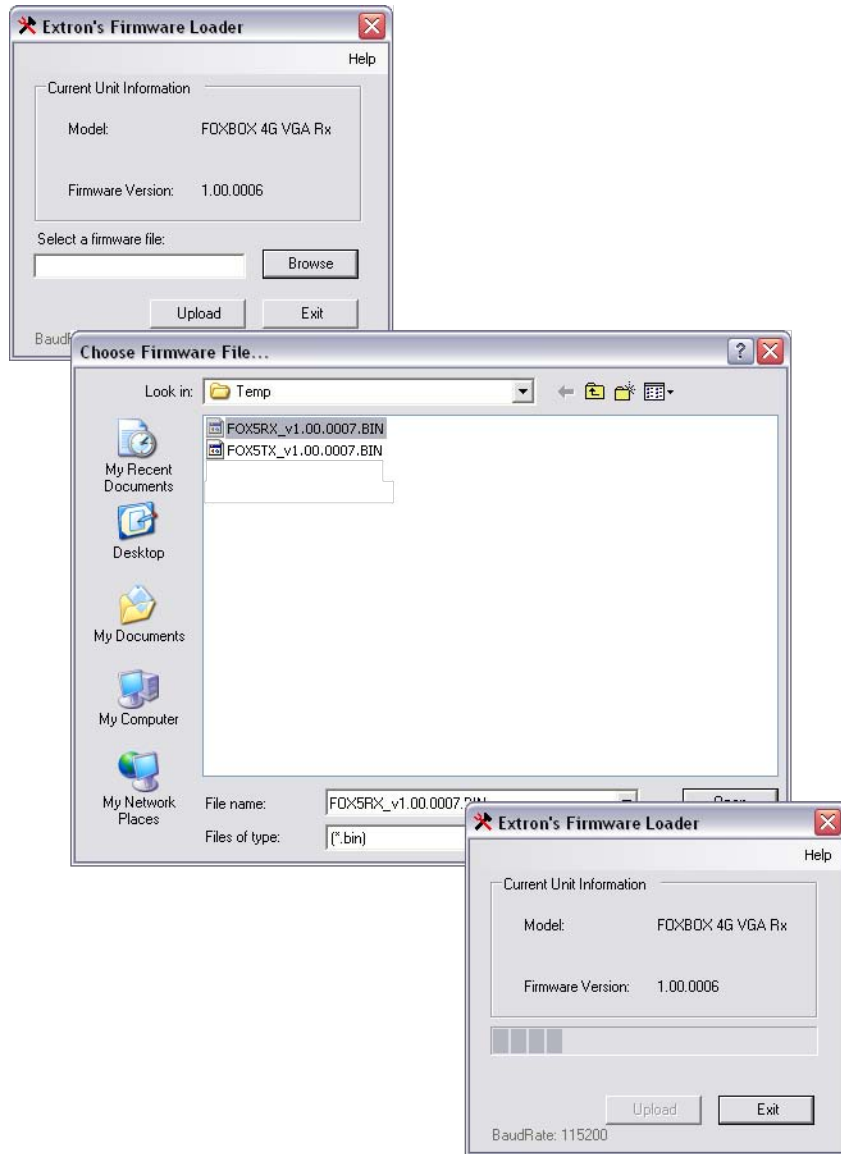

Figure 3-5 — Open window
5. Click **Tools > Update Firmware**. The Extron Firmware Loader appears (figure 3-5 on the next page).